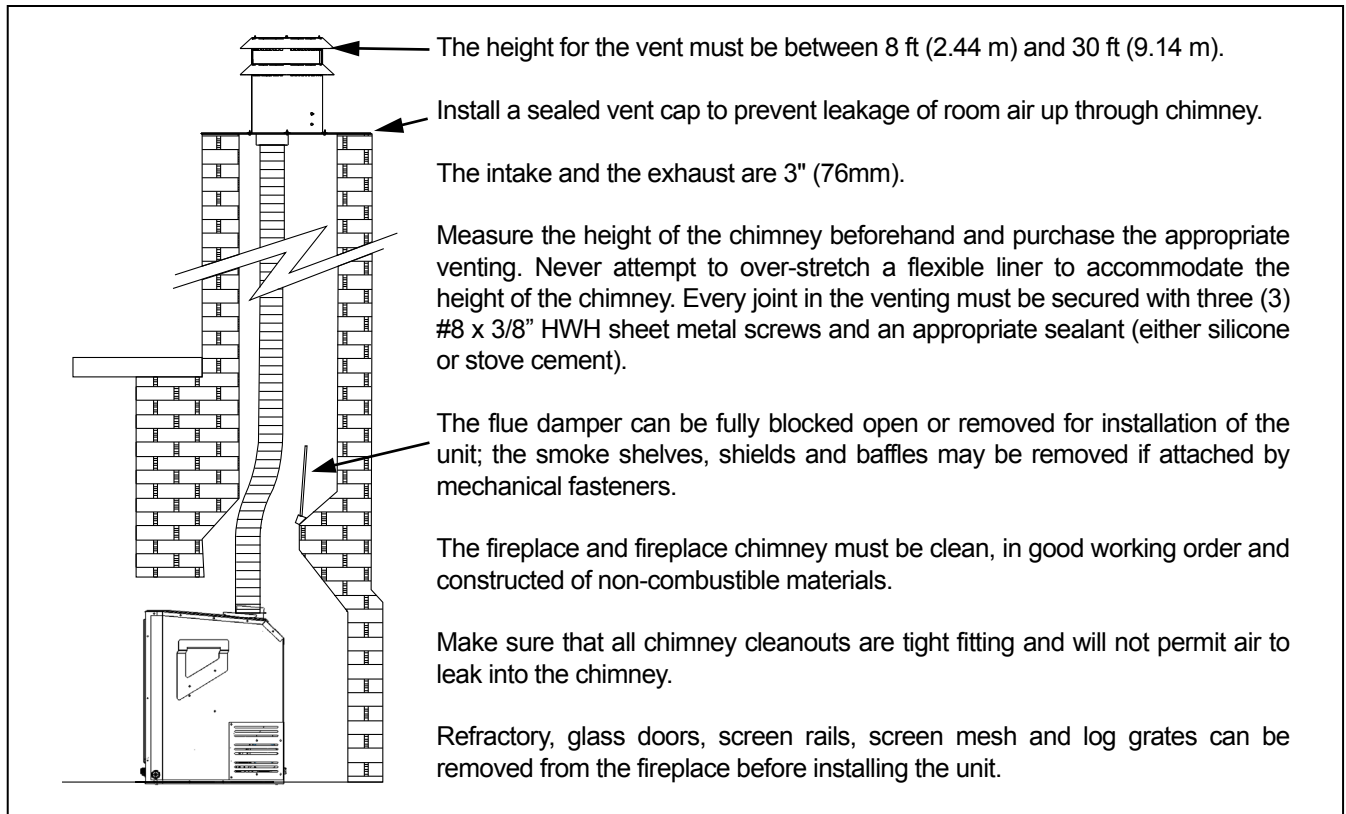

Figure 18: Installation of E30 DV .
6. Place a bead of high temperature silicone on the intake collar of the fireplace, slide the Ø3" (76mm) flex intake liner over the collar, secure the flex liner with three (3) sheet metal screws evenly spaced.
7. At the top of the chimney, apply a bead of stove cement sealant to the Ø3" (76mm) pipe of the exhaust vent terminal (refer to Figure 18). Slide the flex liner onto the vent terminal and secure with three (3) sheet metal screws evenly spaced.
8. Place a bead of high temperature silicone on the intake collar of the vent terminal (refer to Figure 18). Slide the Ø3" (76mm) flex intake liner over the collar, secure the flex liner with three (3) sheet metal screws evenly spaced.